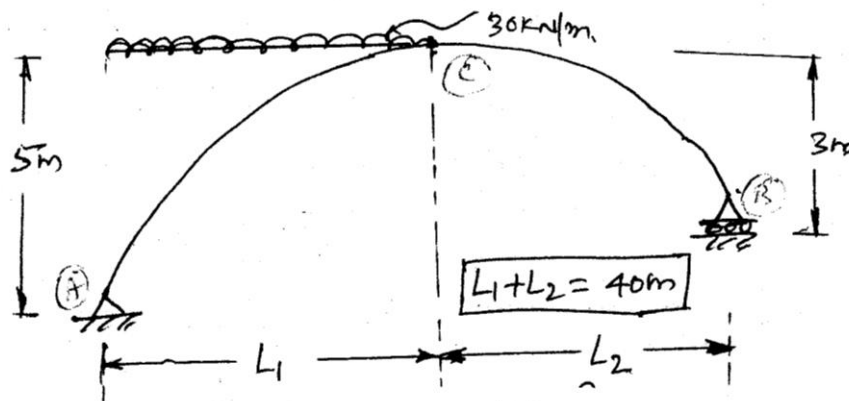

Figure-3.
5. A three hinged parabolic arch having supports at different levels are shown in figure-3, carries a uniformly distributed load of intensity 30 kN/m over the portion left of the crown. Find the bending moment, normal thrust and radial shear force developed at a section 15 m from the left support.